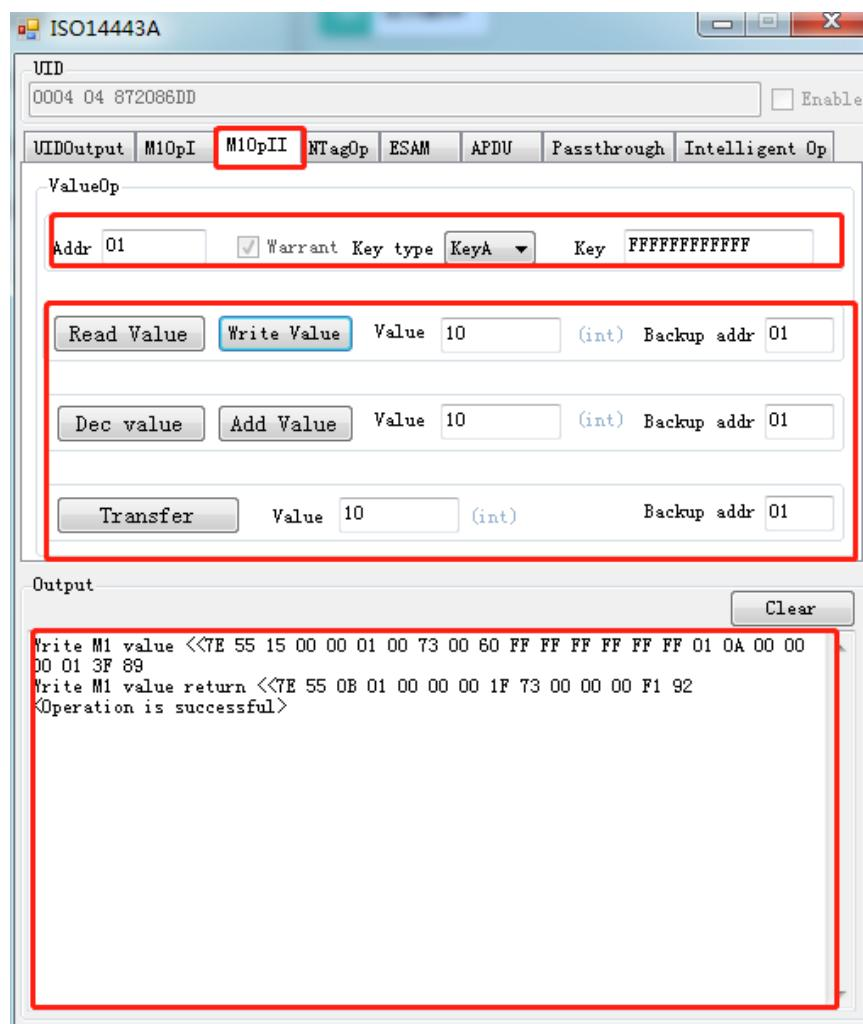

Figure 3.14 M1operation II
② The block address must be within the label's actual memory address. The number of blocks has been set to 1 by default. One block (16bytes) is read at a time.
As shown in figure 3.14, in **M1operation II**, write the head "address" of the value operation. The key type (**KeyA/KeyB**) and key (6 bytes) strictly comply with ISO14443A protocol (label factory default key: FFFFFFFFFFFF). Click “read value, write value, decrease value, add value, transfer” button, and the “output” window returns “operation successful”, which indicates that the value operation is successful.